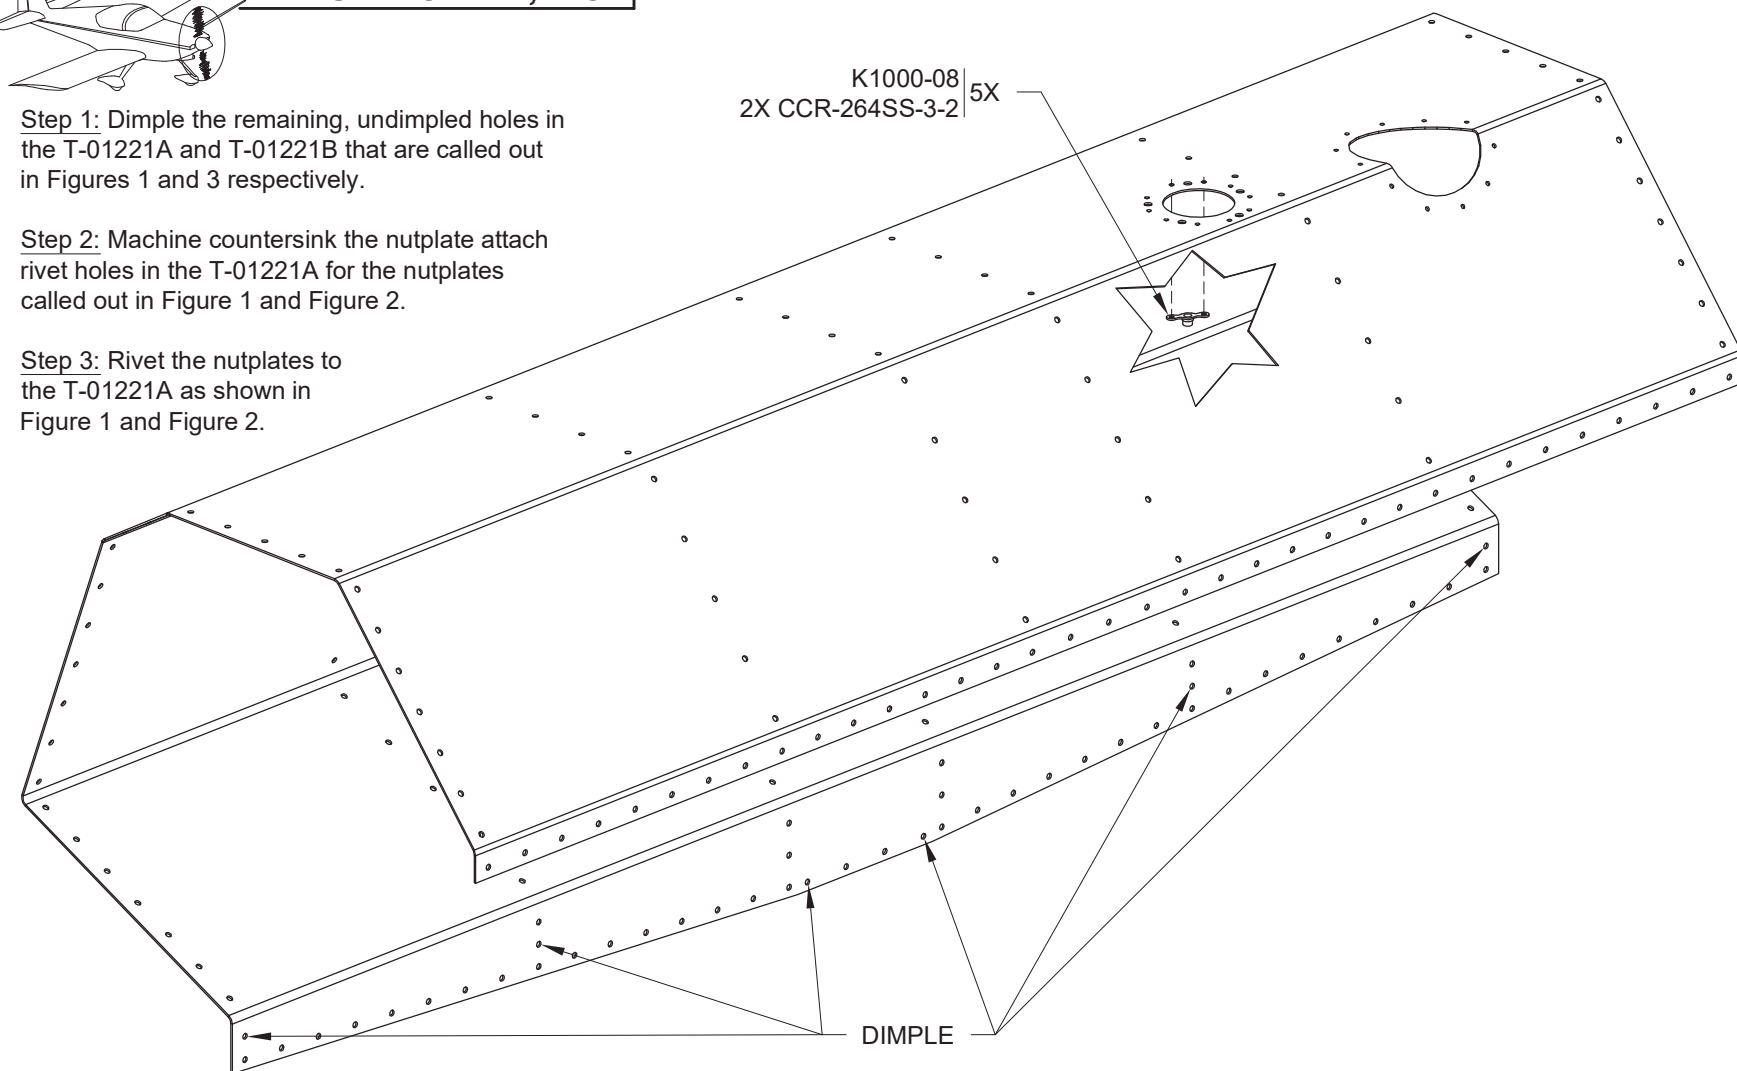
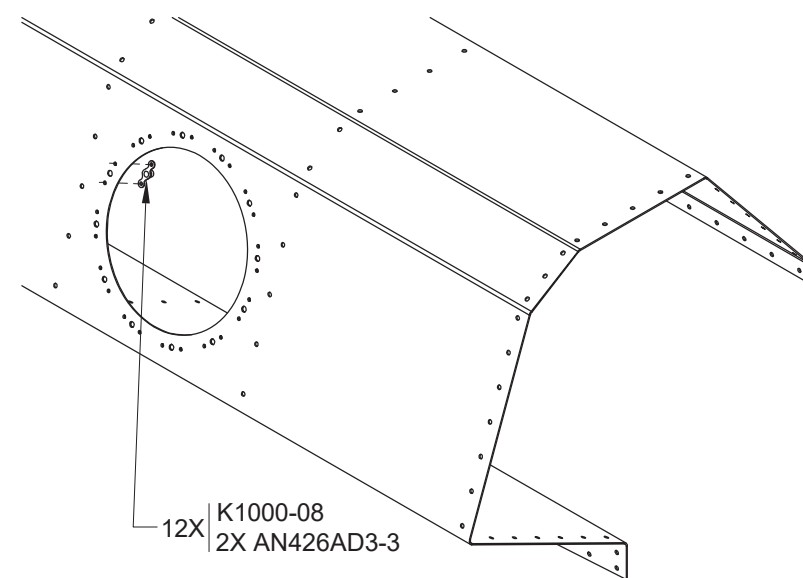

FIGURE 1: T-01221A TOP SKIN
FIGURE 2: ATTACHING NUTPLATES TO THE T-01221A TOP SKIN
Step 1: Dimple the remaining, undimpled holes in the T-01221A and T-01221B that are called out in Figures 1 and 3 respectively.
Step 2: Machine countersink the nutplate attach rivet holes in the T-01221A for the nutplates called out in Figure 1 and Figure 2.
Step 3: Rivet the nutplates to the T-01221A as shown in Figure 1 and Figure 2.